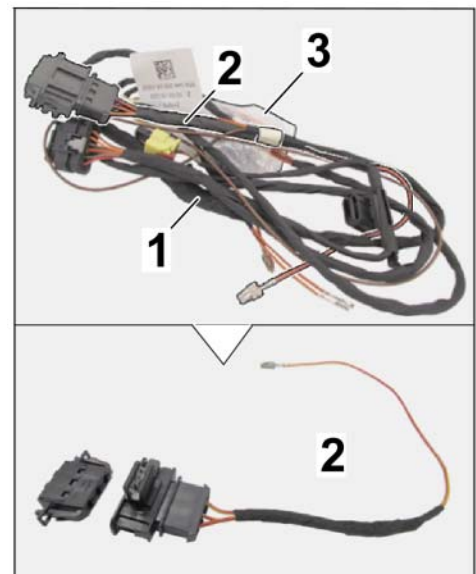

Figure 18
- 2.1 Release secured adapter cable with plug connection (3-pin) and bag of small parts from electric wire harness for engine noise control unit/pulse sender (⇒ *Figure 18*).